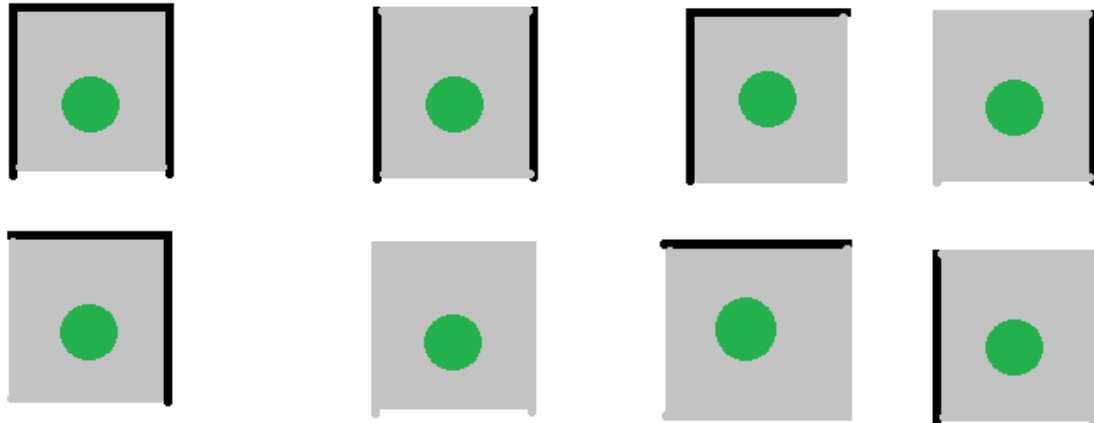

Figure 12 Testing jig: maze pixel wall state permutations (black lines = walls, grey = base plate, green dot = testing PCB)
6. The walls will be moved in the configurations shown in *Figure 12* and you will be awarded marks accordingly.